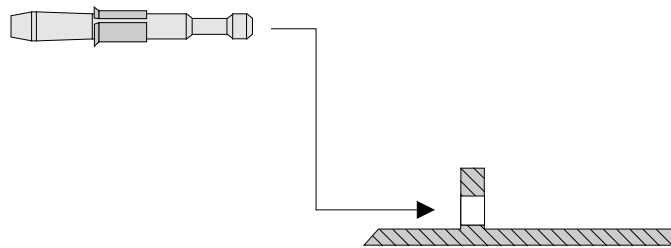

Figure 6-2
2. Select and install the sleeve on the mandrel with the flare away from the nose cap. Insert the mandrel and sleeve into the hole, as shown in Figure 6-2.